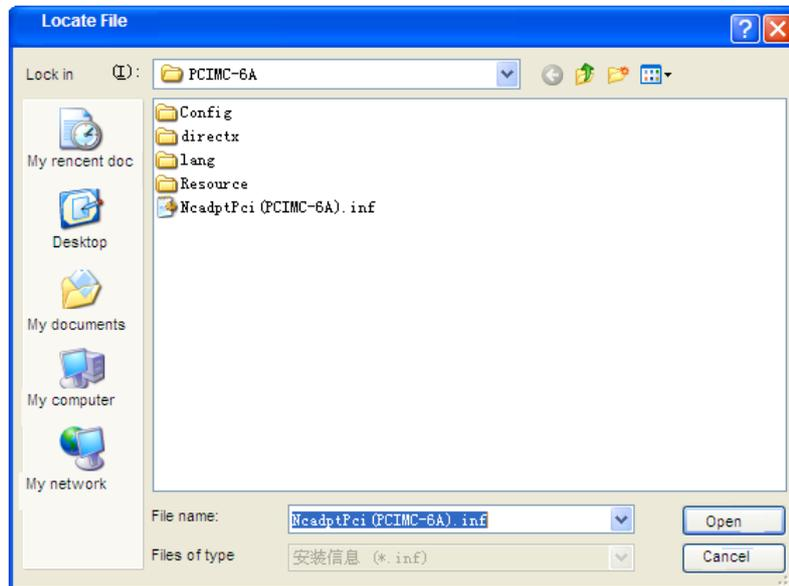

Fig. 3-5 Select the hardware driver
- 6) Click “Browse” to open a dialog box named “Locate File”, as shown in Fig. 3-5, select the target hardware driver in the list. Choose the target file “NcadptPci(PCIMC-6A).inf” under the directory of C:\Program Files\Naiky\PCIMC-6A.